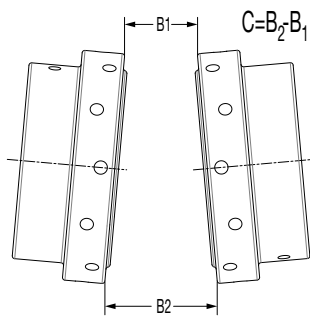

Figure 3 - Angular Misalignment
2. Using scales or calipers, check the angular misalignment by measuring dimension “B” at four places on the outer diameter of the hub 90° apart, as seen in Figure 3. Use the “B₂” and “B₁” measurements to calculate “C”. Adjust the equipment until the “C” measurements do not exceed the value in Table 3.